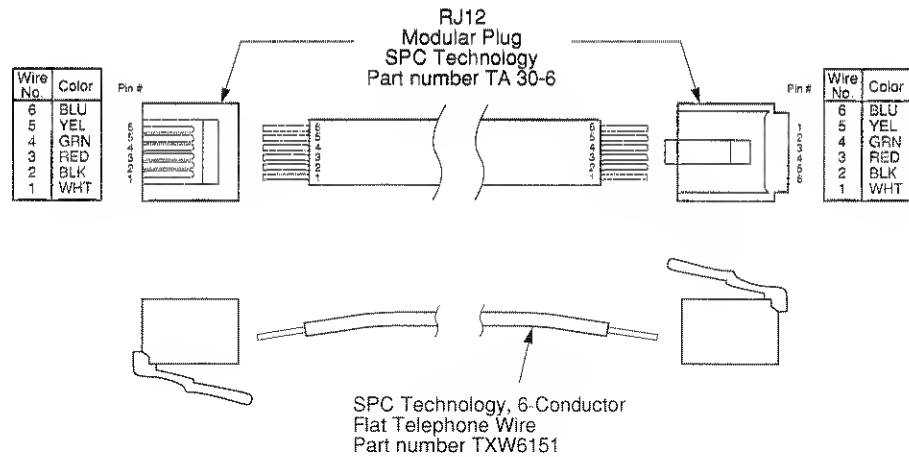

Figure 3-4. Assembling the Cable
- 3 Attach an RJ12 modular plug to each end of a suitable length of 6-conductor, flat telephone cable as shown in Figure 3-4. Be sure to attach the connectors in the orientations shown in the figure.